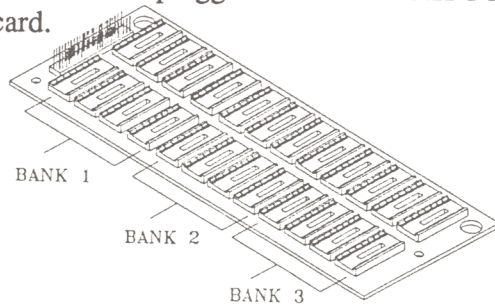

Figure 2-4-1 An expansion memory card
2-4-1 The HB-402P provides an expansion memory card option, which is shown in Figure 2-4-1. The capacity of this RAM card is up to 3 Mega bytes (MB). With this RAM card the total buffer size will be up to 4 MB if the main board of the HB-402P has 1 MB memory on board. The RAM chips used in the expansion card are all 1 M x 1 bit DRAM chips (speed: 80ns to 120ns).